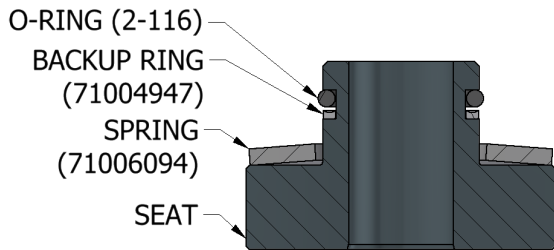

Figure 12 – Seat Assembly
- 13.5 Install the backup ring so that the concave contour faces the O-ring. Install the backup ring and O-ring per Figure 12.